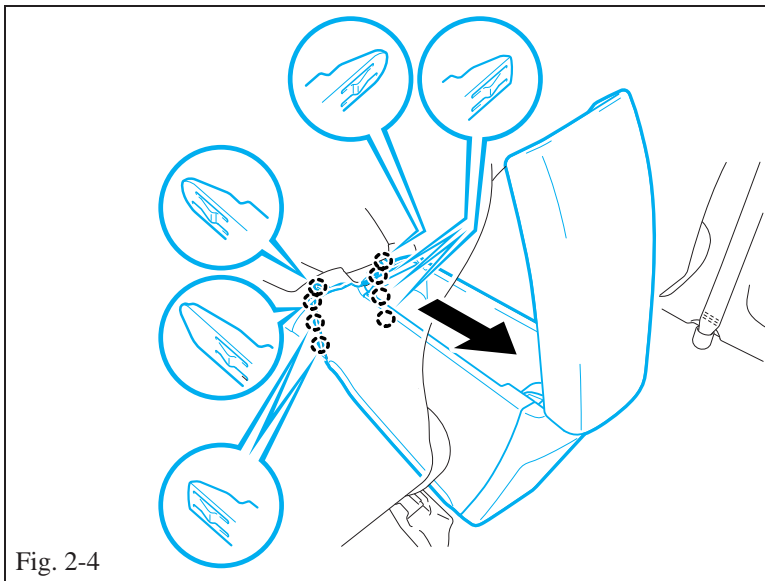

Fig. 2-4
- (f) Slide the console back to release the eight (8) claws. (Fig. 2-4)